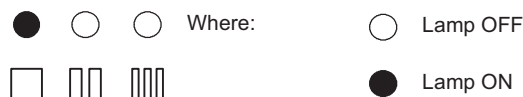

Figure 10.16
- 6 The lamps F should give the indication as in Figure 10.16. If not, press the reset button repeatedly to obtain it.